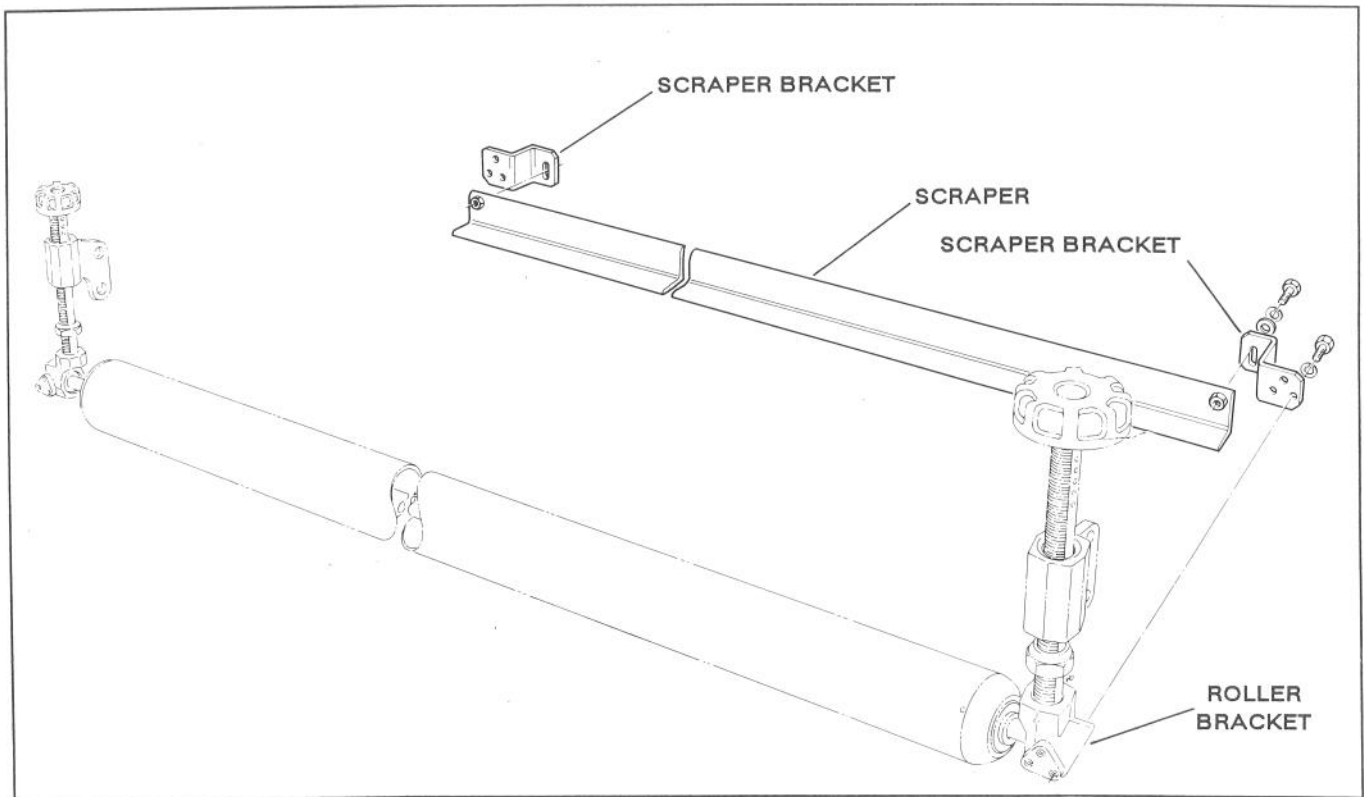

Figure 1
2. Loosely mount right and left roller scraper brackets to roller scraper with 5/16 - 18 x 3/4" lg. capscrews, lockwashers and flatwashers. Position brackets as shown in Fig.1.
- brackets with 5/16 - 18 x 5/8" lg. capscrews and lockwashers (Fig.1).